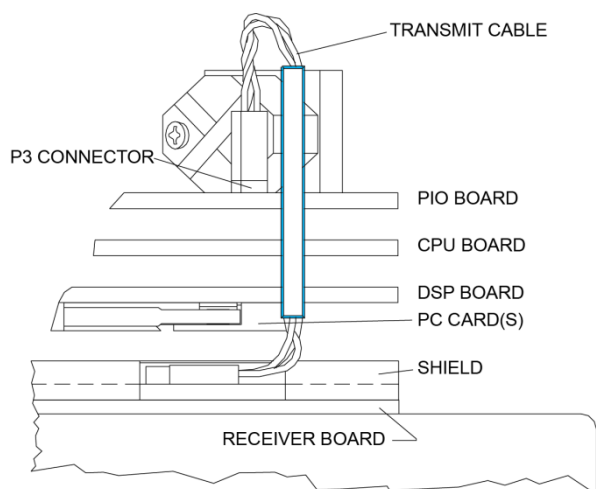

Figure 43. Transmit Cable
3. Note the orientation of the transmit cable connector as it is plugged into the PIO board and to the Receiver board (see Figure 43).